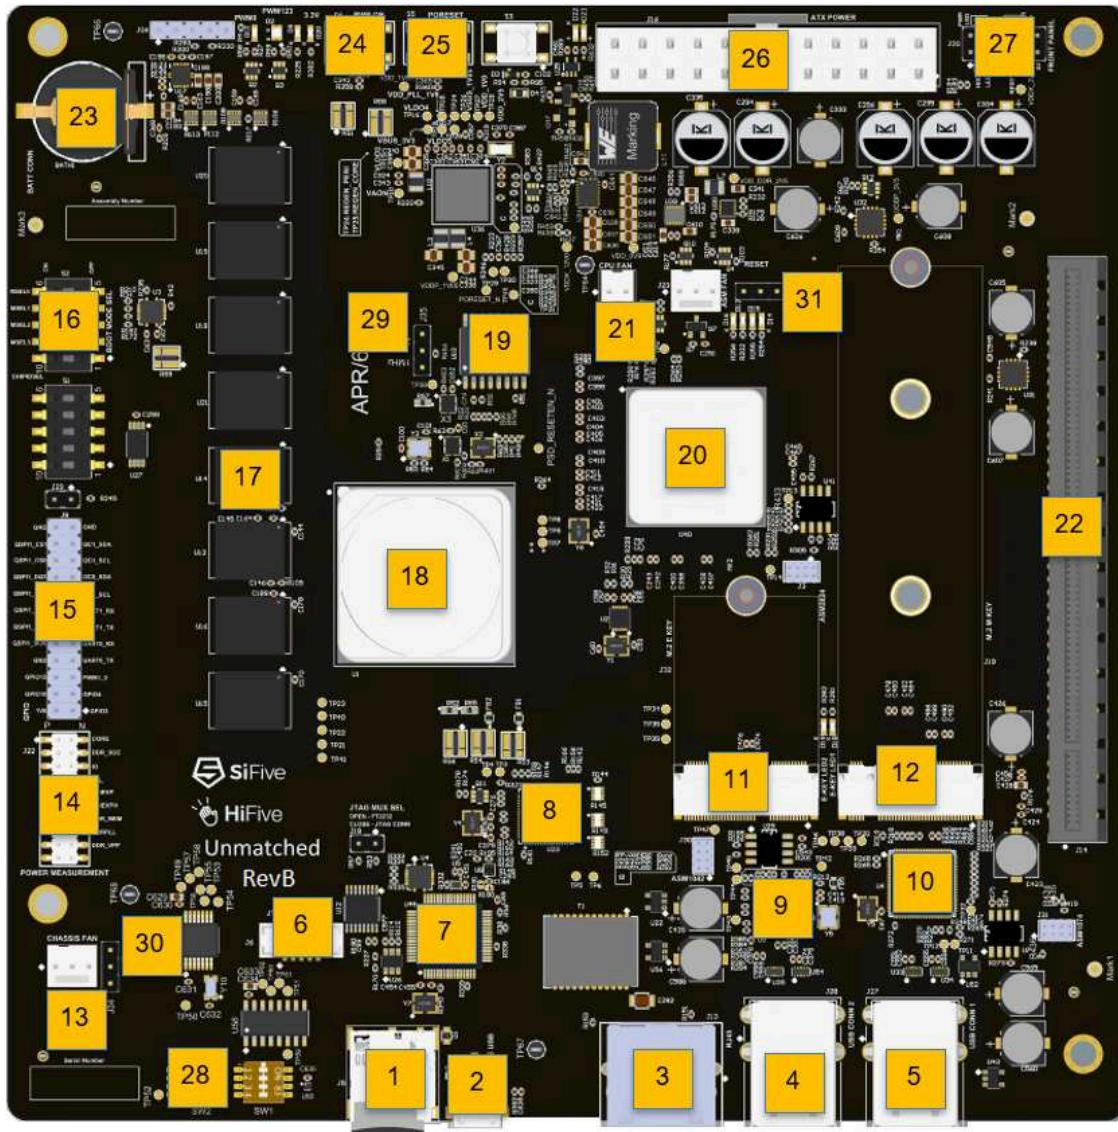

Figure 1: HiFive Unmatched Components Locator
(for **1** in Figure 1)
6. Cat5e ethernet cable (2m length) (connects to **3** in Figure 1)
7. USB Type A to micro-USB Type B Cable (1.5m length) (connects to **2** in Figure 1)